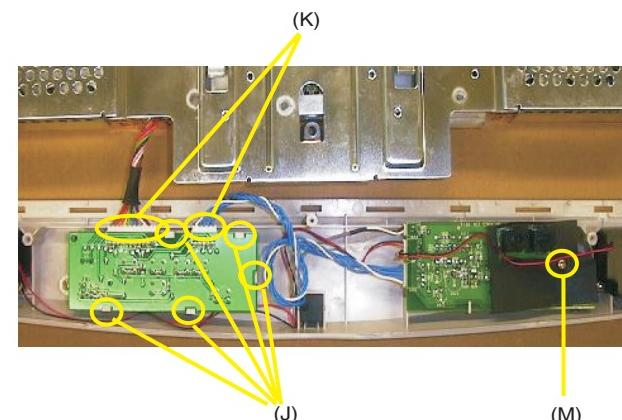

Fig. 11
Step 1 : Release five clips (J).
Step 2 : Disconnect two connectors (K), Remove screw (M). See Fig. 11